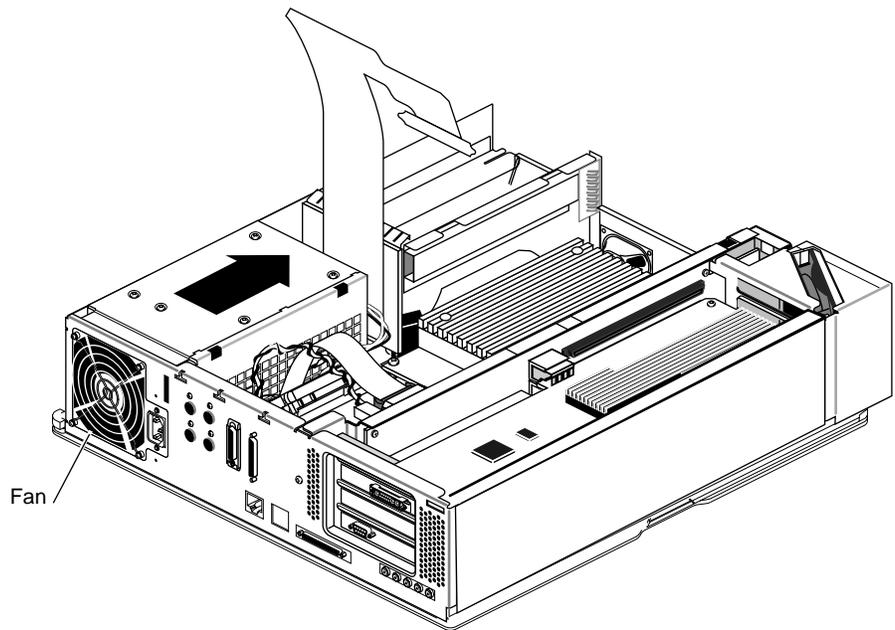

Figure 2-13 Sliding the Power Supply Forward
- Move the power supply toward the front of the workstation about 1/4", as shown in Figure 2-13, by pushing on the flat surfaces around the fan.